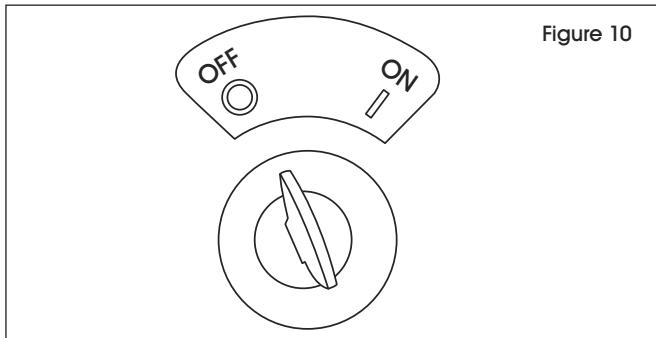

Figure 10
1. Turn key to OFF position. (See Figure 10)